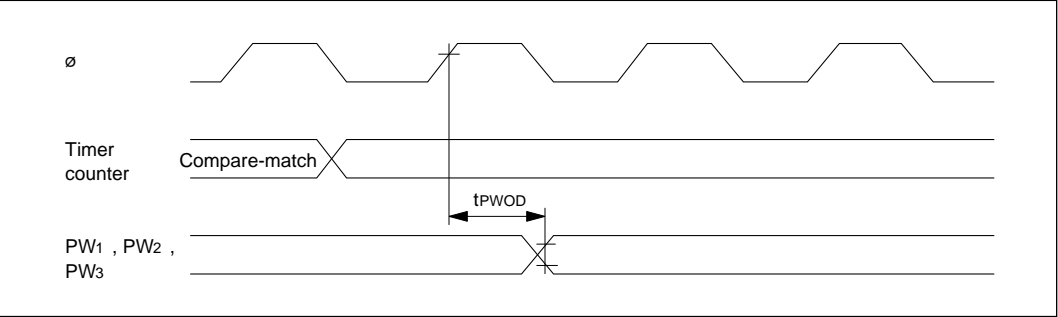

Figure 20-19 PWM Timer Output Timing
20.3.7 Pulse Width Modulation Timer Timing	Figure 20-19